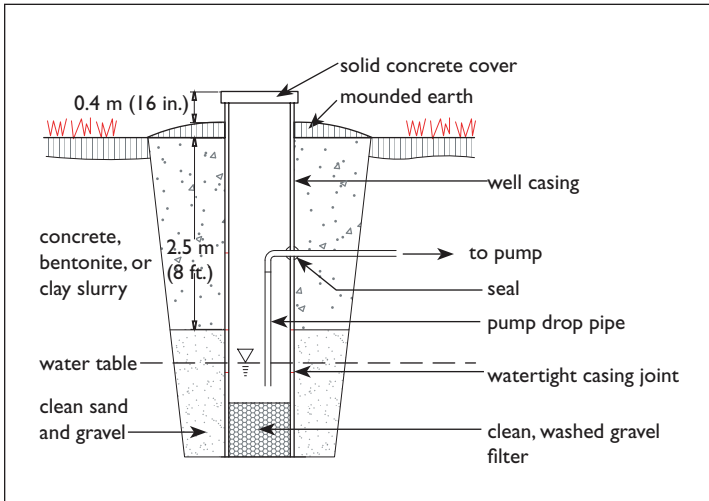

Figure 1: Dug Well
**Dug and bored wells** (60-120 cm/ 24-48 in. diameter) are commonly used to produce water from shallow surface aquifers (less than 15 m/ 50 ft. deep); and, they are prone to contamination from surface water infiltration and to water shortages (see Figure 1 on page 2). An **aquifer** is an underground formation of permeable rock or loose material, which can produce useful quantities of water when tapped by a well. Another type of well used in surface aquifers is a sand point well (2.5-5 cm/1-2 in. diameter), which is a pointed well screen connected to a small diameter pipe driven into water-bearing sand or gravel.